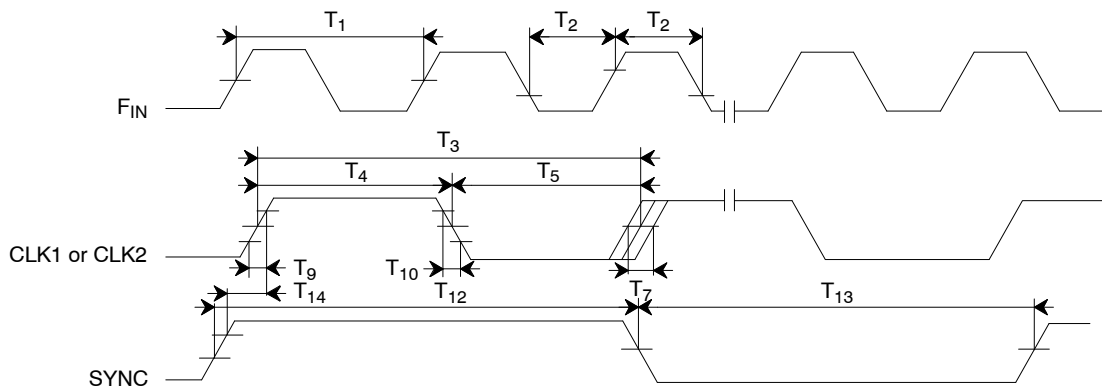

Figure 3. Clocks Timing
**AC ELECTRICAL CHARACTERISTICS (See Figure 3)**